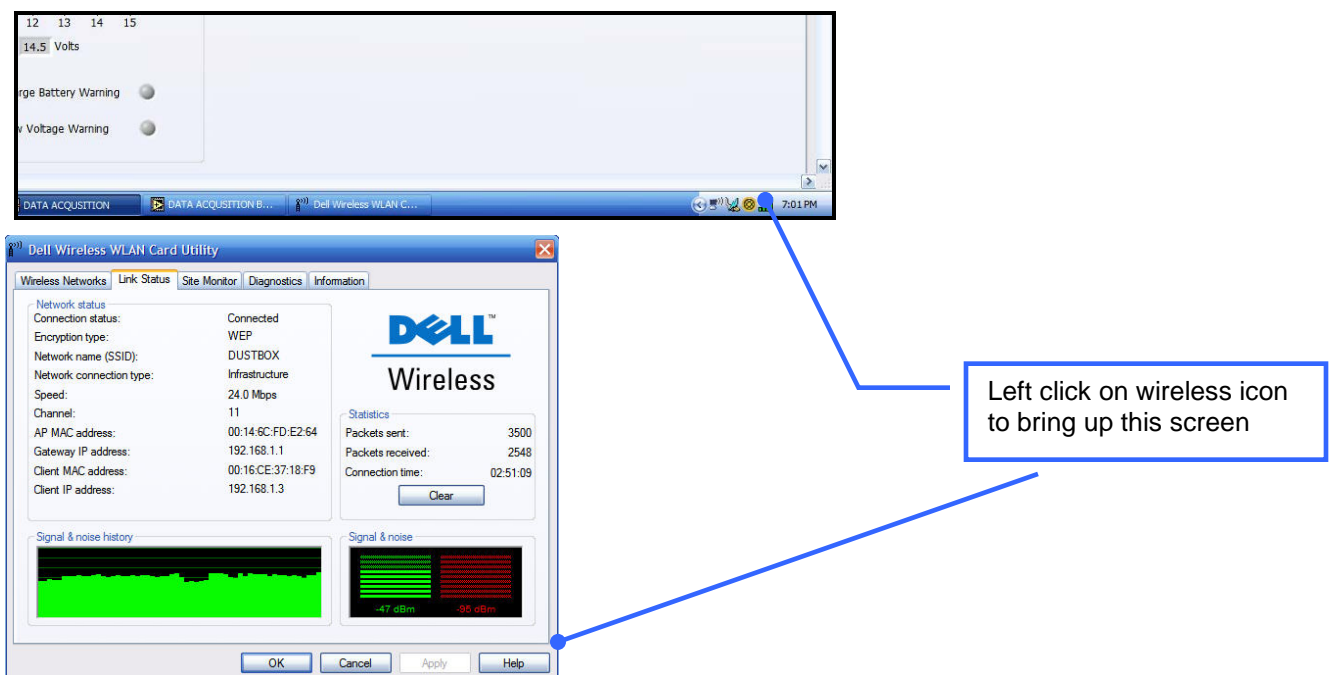

Figure 18: WiFi diagnostics screens
1. Install DustBox at a convenient central location on the floor so the maximum distance from the cart laptop is no greater than ~100-150 ft.2 Review the WiFi signal strength using Windows tools as shown in Figure 18. The cart can be moved around the floor to monitor the WiFi signal strength, values below -70-75dbm may cause mote data logging problems.